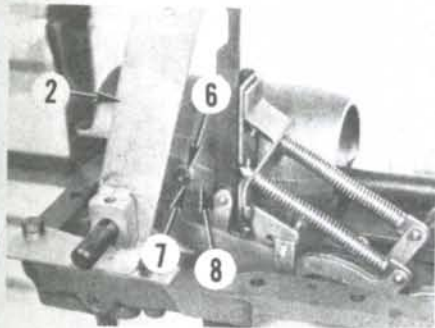
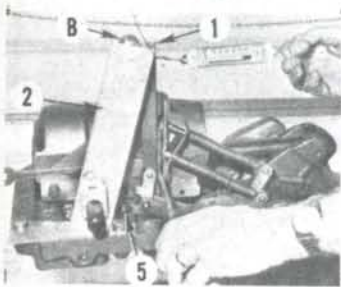

Fig. 270—Refer to text for changing position of pivot bracket (8).
Fig. 271—Use a screwdriver to move pivot bracket while checking for correct draft control setting.
If draft control setting is incorrect, straighten locking clip (6—Fig. 270) and loosen nut (7). While applying 1-1/2 kg (3 pounds) pull to vertical lever, move pivot bracket with a screwdriver until vertical lever makes light contact with bushing (B—Fig. 271). Tighten nut and lock it in place by bending locking clip when adjustment is correct.